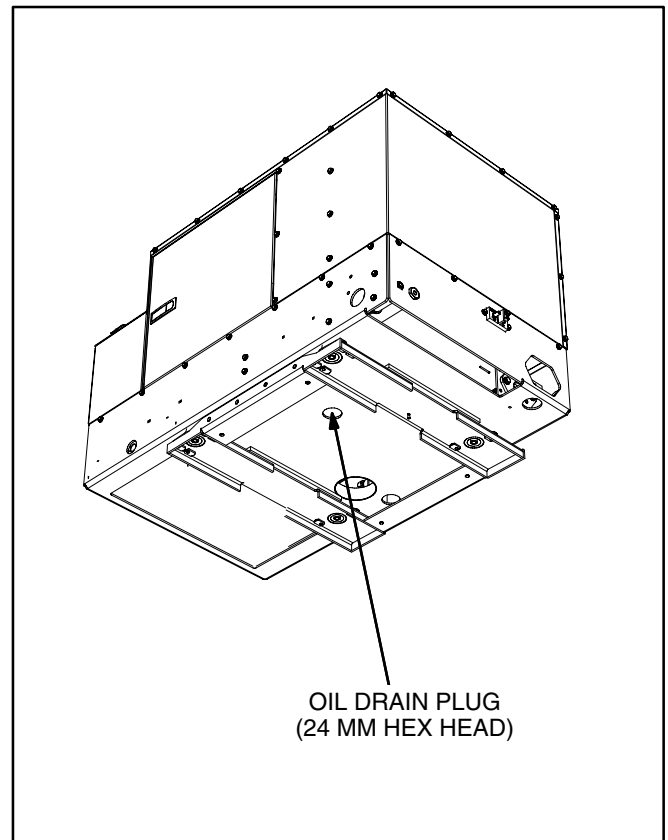

FIGURE 10. OIL DRAIN PLUG
1. Place a pan under the oil drain plug (Figure 10), run the genset until warm and shut it off.